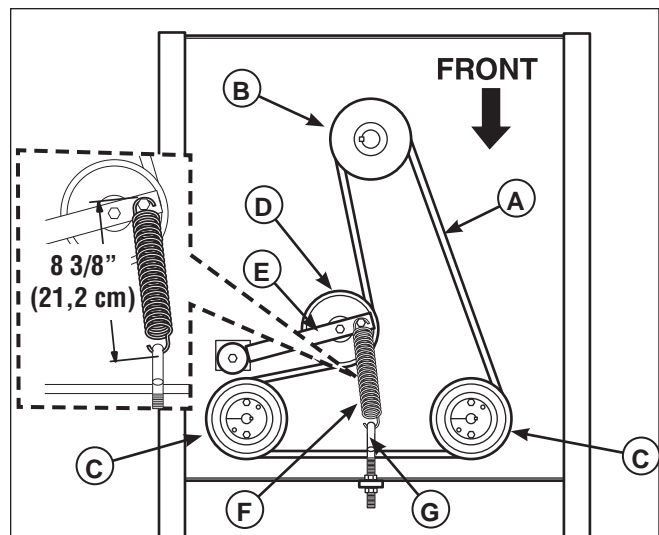

Figure 38. Hydraulic Pump Drive Belt Replacement
4. Loosen the nut towards the front of the machine on the spring anchor hook (**G**, **Figure 38**) to release the majority of the belt tension. Use caution and remove the nut to completely release the tension.